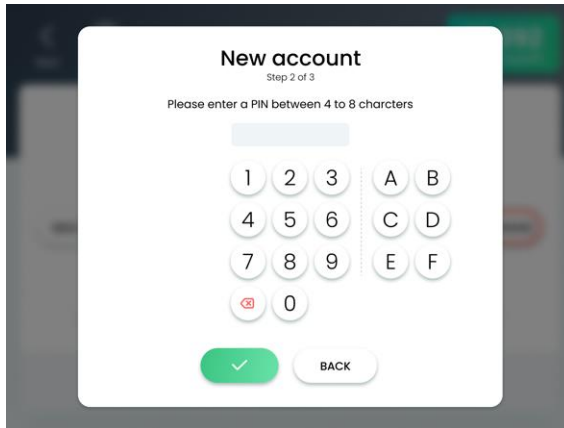

Figure 6-4. New Account (Step 2 of 3) Screen
5. Press the **Confirm** button; the New Account (Step 2 of 3) screen appears, as shown in Figure 6-4.